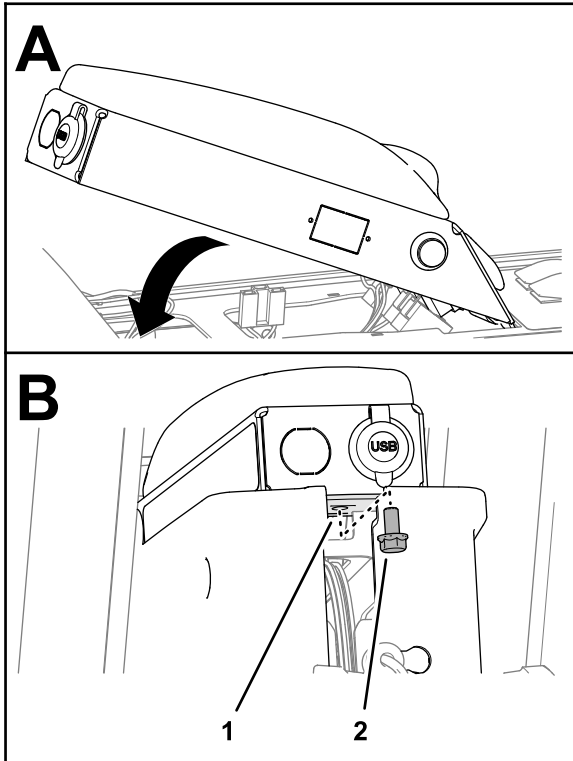

Figure 109
1. Align the tabs at the front of the arm panel with the slots in the console frame, and rotate the arm pane down (Figure 109).
2. Secure the arm panel to the console frame (Figure 109) with the flange-head cap screw (5/16 x 5/8 inch).